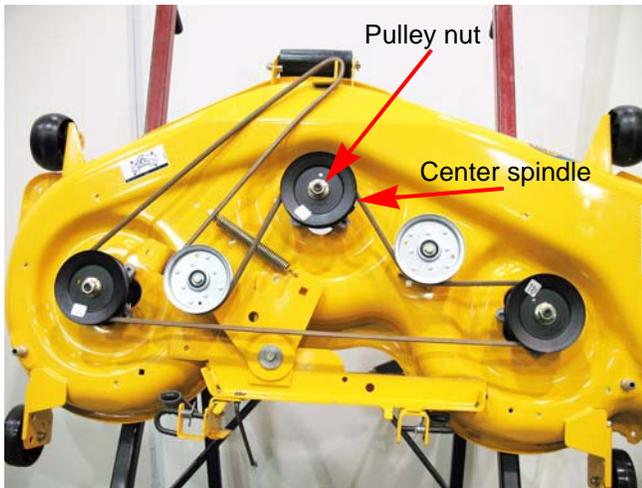

Figure 8.11
2. If the deck is equipped with three blades, the center spindle pulley can be removed at this point using an impact wrench with a 15/16" socket to remove the pulley nut. See Figure 8.11.